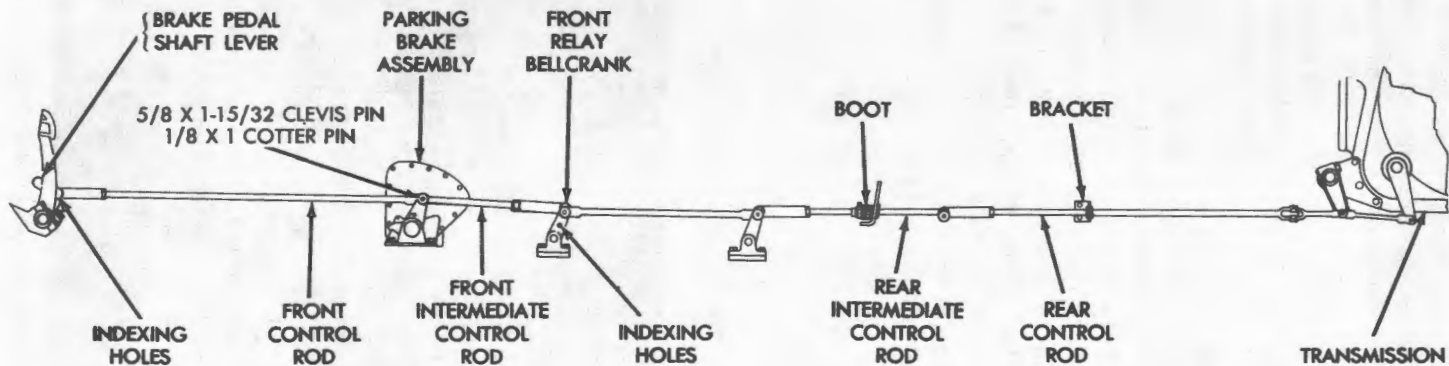
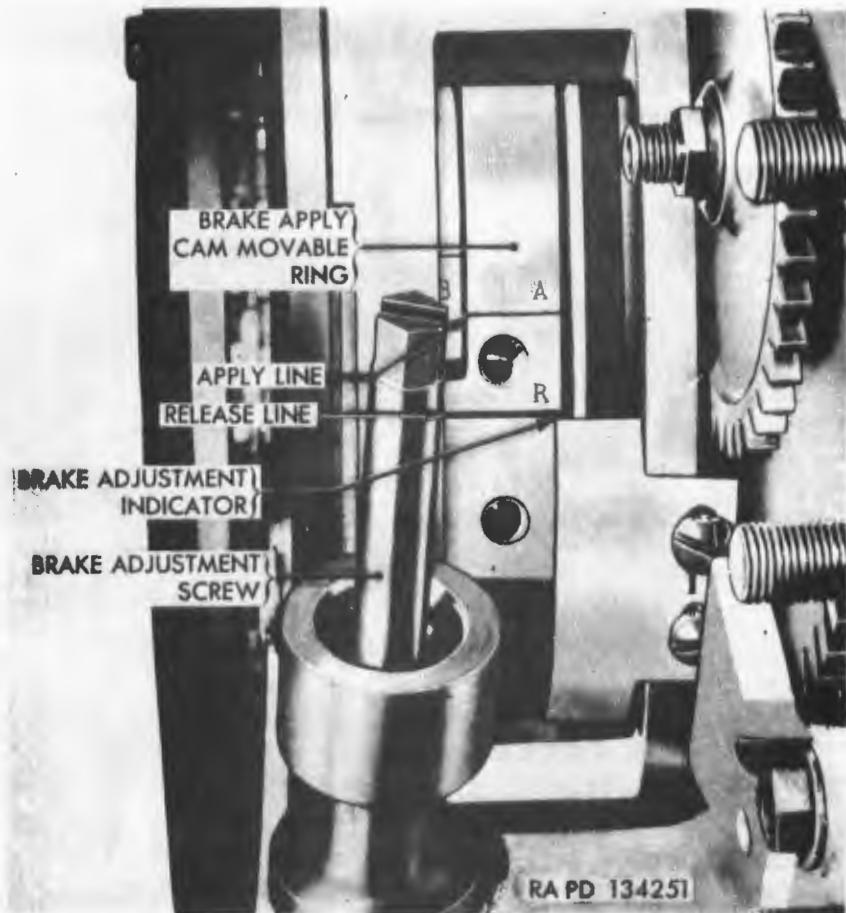
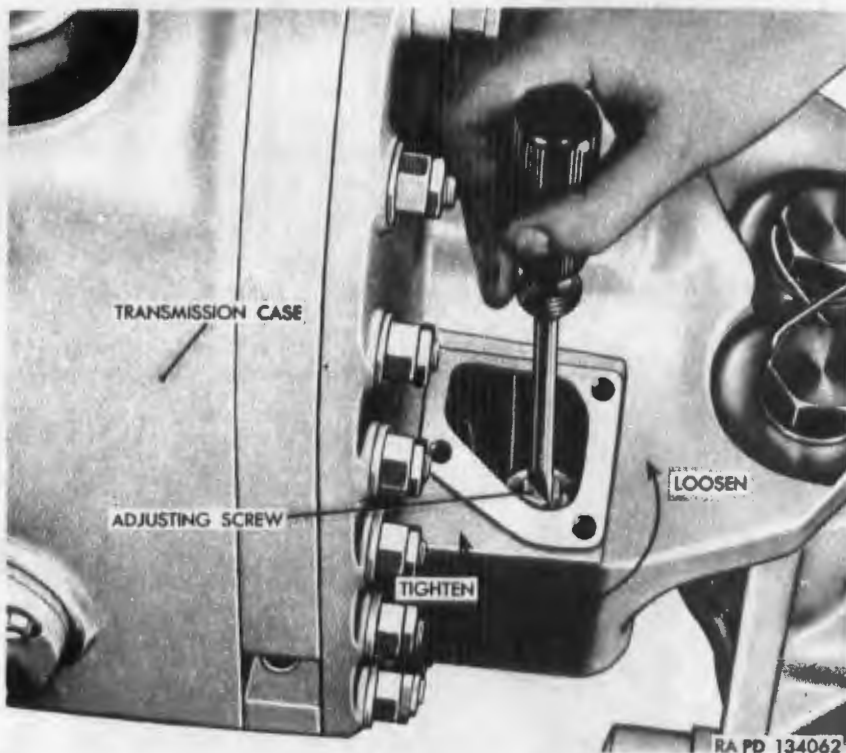

Figure 188. Brake control linkage.
Figure 190. Brake adjustment components.
Figure 191. Adjusting brakes.
- (1) Remove driver's seat back rest, and lower seat as far as possible (par. 247).
- (2) Remove personnel heater duct from driving compartment (par. 262d).
- (3) Remove cotter pin and clevis pin securing front control rod (fig. 188) to parking brake assembly.
- (4) Position brake pedal shaft lever (fig. 188) so that a $\frac{1}{8}$ -inch pin can be inserted through indexing holes provided in lever and supporting bracket and insert pin through holes. This will lock lever in correct position for front control rod adjustment.
- (5) Remove cotter pin and clevis pin (fig. 188) securing front intermediate control rod to parking brake assembly.
- (6) Position front relay bellcrank (fig. 188) so that a $\frac{1}{8}$ -inch pin can be inserted through indexing holes provided in bellcrank assembly. This will lock bellcrank in position for front intermediate control rod adjustment.
- (7) Loosen locknuts on front end of front control rod (fig. 188) and rear end of front intermediate control rod at front relay bellcrank. Adjust rod eyes so that a $\frac{5}{8} \times 1\frac{1}{2}$ clevis pin will fit freely between rod eyes and bellcrank of parking brake assembly. Secure rod eyes in position by tightening locknuts. Secure control rods to bellcrank with two $\frac{5}{8} \times 1\frac{1}{2}$ clevis pins and $\frac{1}{8} \times 1$ cotter pins.
- (8) Remove bulkhead door (par. 243a).
ment procedure. Station a man to watch the brake adjustment indicator (fig. 190) in the transmission. Remove cotter pin and clevis pin from rear intermediate control rod (fig. 188) and rear control rod. Loosen locknut on control rod and adjust control rod yoke until brake adjustment indicator is alined with R (release) line on brake, apply cam movable ring (fig. 190).
- (12) When correct linkage adjustment has been made, secure control rod yoke by tightening locknut and installing $\frac{5}{8}$ x $1\frac{1}{2}$ clevis pin and $\frac{1}{8}$ x 1 cotter pin between rear intermediate control rod (fig. 188) and rear control rod. Install brake adjustment covers and secure with six $\frac{5}{16}$ x $\frac{7}{8}$ self-locking hex-head bolts.
- (13) Install bulkhead door (par. 243b).
- (14) Remove $\frac{1}{8}$ -inch diameter pins from indexing holes in
parking brake assembly (fig. 188) and front relay bell-crank.
- (3) Two lines are visible; one is marked A (apply) the other is marked R (release) (fig. 190). When the brake pedal is released, the brake adjustment indicator should align with the R line (b above). When the brakes are applied, the indicator should align with the A line.
- (4) To adjust brakes, apply the brake pedal and turn brake adjusting screw (fig. 191) clockwise to apply and counterclockwise to release until A (apply) line on brake apply cam movable ring (fig. 190) aligns with brake adjustment indicator.
- (5) When adjustment is complete, be sure slot of brake adjustment screw (fig. 190) is in the proper position to receive the angle plate mounted on the inside of the brake adjustment cover. The angle plate holds the screw in its set position to prevent vibration from jarring the brakes out of adjustment. This correct slot position is cross-wise of the vehicle for each brake.